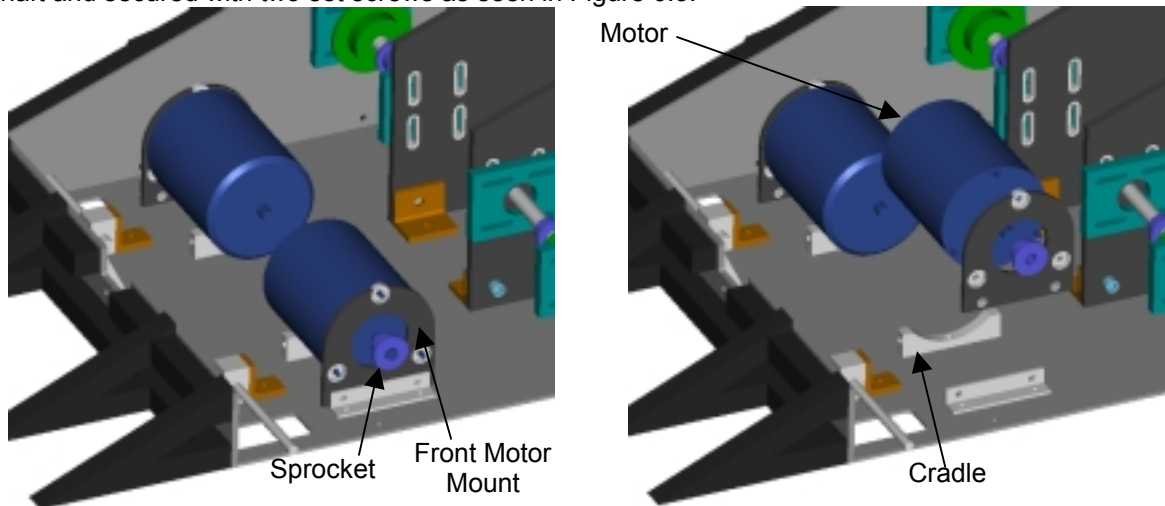

Figure 6.3 – Drive Motors
The two drive motors provide power to the wheels on either side of the Bot through a chain drive system. The motors are controlled by a speed controller mounted in the rear of the Bot (Section 8.2). The motors are mounted in the front of the Bot on either side. The rear side sits in a cradle. A hose clamp is attached to the sides of the cradle with two screws. The clamp is wrapped around the motor and when the screw is tightened, the motor is pulled tightly into the cradle. The front of the motor is attached to a motor mount by three screws. The motor has bolts that protrude through holes in the motor mount. Nuts are then tightened to secure the motor. A 10 tooth sprocket is placed on the motor shaft and secured with two set screws as seen in Figure 6.3.
1. Align front motor mount with bracket on bottom of Bot. Be sure the front motor mount is oriented such that the recessed cavity in the three large inserts is facing out as seen in Figure 6.3.